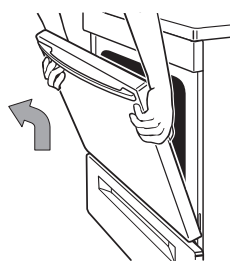

Figure 3
4. See Fig. 3. Pull door straight up until it stops, then rotate the door toward the floor, and pull it toward you. Hinge hangers will slide out of front frame hinge slots.